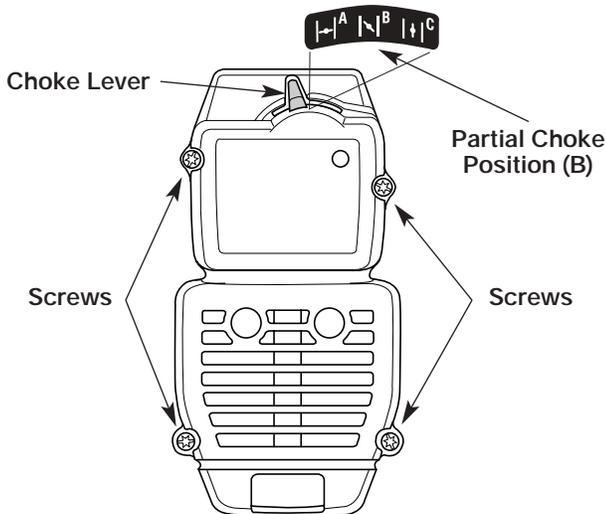

Fig. 22
- Remove the four (4) screws securing the air filter/muffler cover (Fig. 22). Use a flat blade or T-20 Torx bit screwdriver.
2. Insert the four (4) screws into the holes in the air filter/muffler cover (Fig. 22) and tighten. **Do not over tighten.**